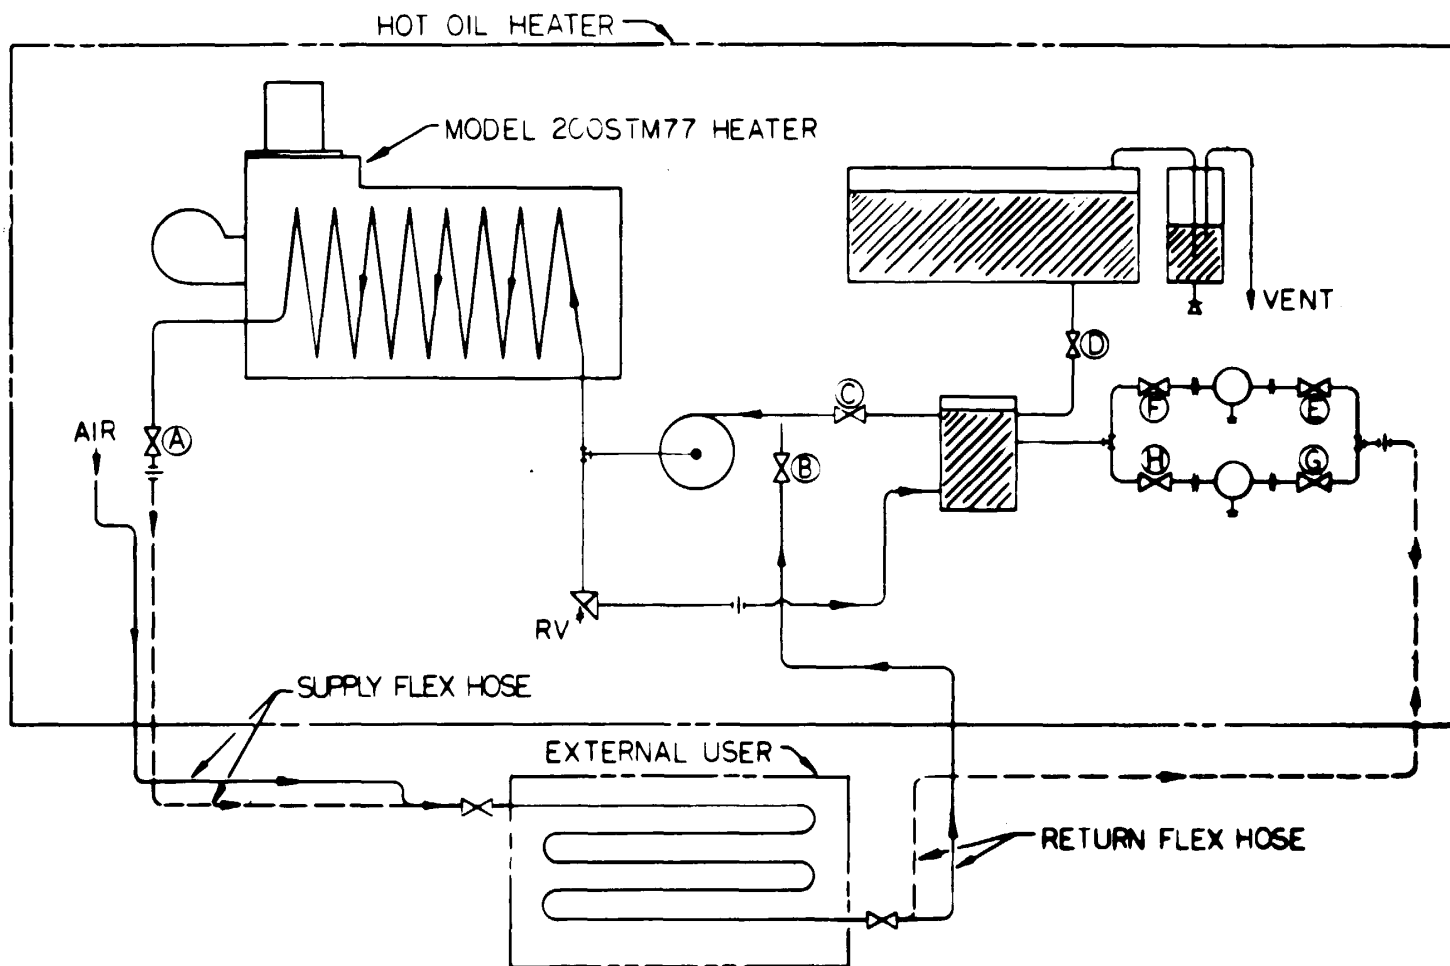

Figure 15 SYSTEM UNLOADING DIAGRAM
- b. Unloading. Reference Figure 15.